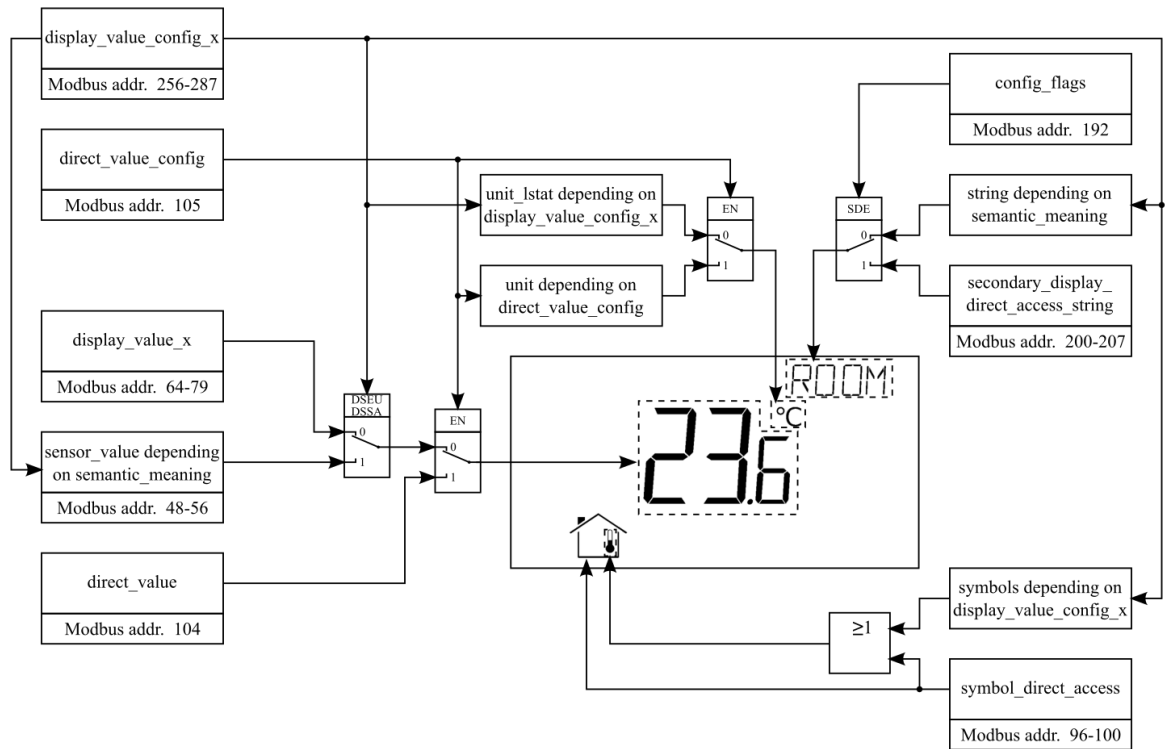

Figure 8: Modbus Register Usage for Value Display
The following Figure 8 shows, which Modbus registers have influence on a displayed value, unit, text on the secondary display or symbols. Depending on settings in configuration registers different combinations are possible to achieve the desired result.
<p>① A sensor value can be used as source for a display value. Therefore the DSSA or DSEU bit as well as the semantic meaning at the corresponding display value configuration at address 256 to 286 has to be set (see Table 31 on Page 44). If the DSSA or DSEU bit is set this specifies that a sensor value is used instead of a display value. The semantic meaning specifies which sensor value is used as source for displaying. For an overview on this topic please see Figure 8 on Page 25.</p> <p>② Sensor_value_0, sensor_value_1 and sensor_value_3 are 16 Bit signed values. All other sensor values are defined as 16 Bit unsigned since there are no negative values to expect. The values are scaled as described in Table 42 at Page 58.</p>
<p>① The DSSA or DSEU bit at the corresponding display value configuration at address 256 to 286 has to be cleared to display the content of a display value register (see Table 31 on Page 44). If the DSSA or DSEU bit is cleared this specifies that a display value is used instead of a sensor value. The semantic meaning specifies which text is displayed along with the specific display value. For an overview on this topic please see Figure 8 on Page 25.</p>